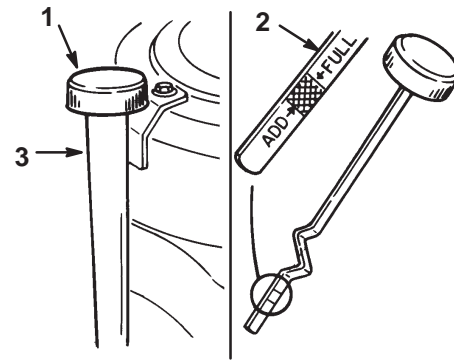

Figure 32
2. Clean around the oil dipstick (Fig. 32) so dirt cannot fall into the filler hole and damage the engine.
3. Unscrew the oil dipstick and wipe the metal end clean (Fig. 32).
4. Slide the oil dipstick fully into the filler tube, do not thread onto tube (Fig. 32). Pull the dipstick out and look at the metal end. If oil level is low, slowly pour only enough oil into the filler tube to raise the level to the full mark.
7. Slowly pour approximately 80% of the specified oil into the filler cap (Fig. 32). Refer to Servicing the Engine Oil, page 29.